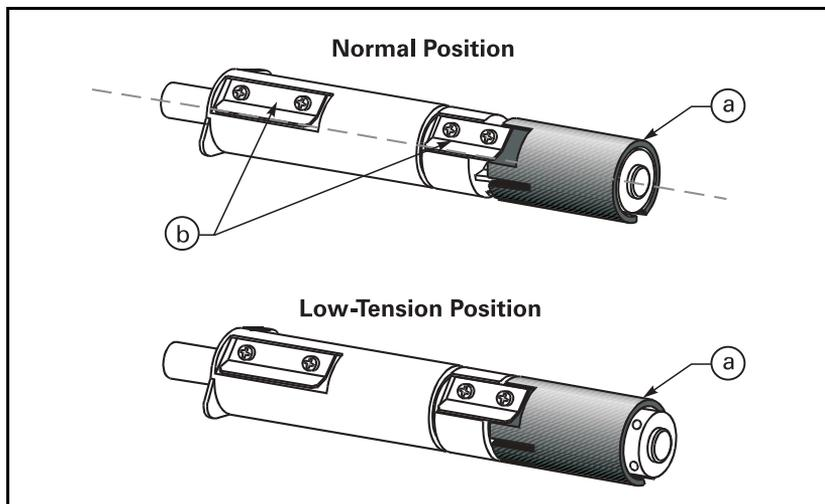

Figure 11. Ribbon Supply Spindle Positions
To place the spindle in the normal position, firmly pull the spindle end cap (a) until it clicks into place, as shown in Figure 11.
To put the spindle in the low-tension position, firmly push the spindle end cap (a) until it clicks into place, as shown in Figure 11.
2. Align the blades (b) on the two sections of the spindle as shown in Figure 11. (You do not need to do this if your ribbon width is 2.4" [60 mm] or less.)